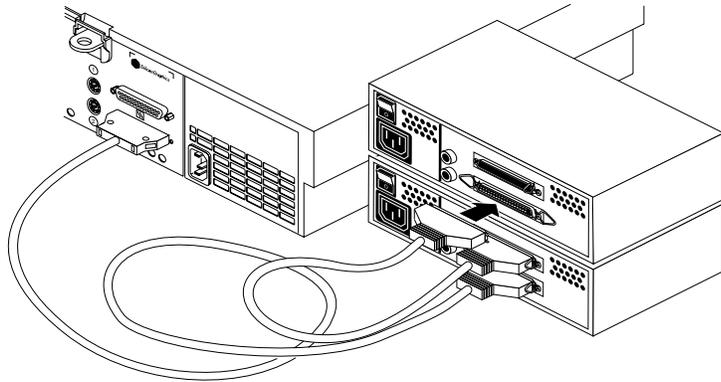

Figure 6-7 Daisy-Chaining an External 50-pin Single-Ended SCSI Device
- To daisy-chain the device to another external SCSI device, connect one end of the cable to the open connector on the first device, as shown in Figure 6-7. Connect the other end to one of the connectors